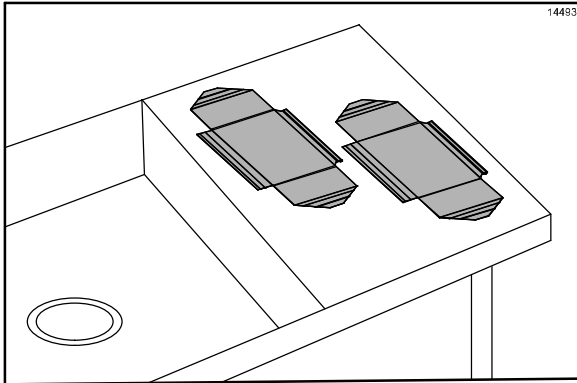

Figure 74
- Set the release sheets aside on a clean, flat surface until further cleaning is performed. **Do not** fold, crease, or place them on sharp objects. (See Figure 74.)